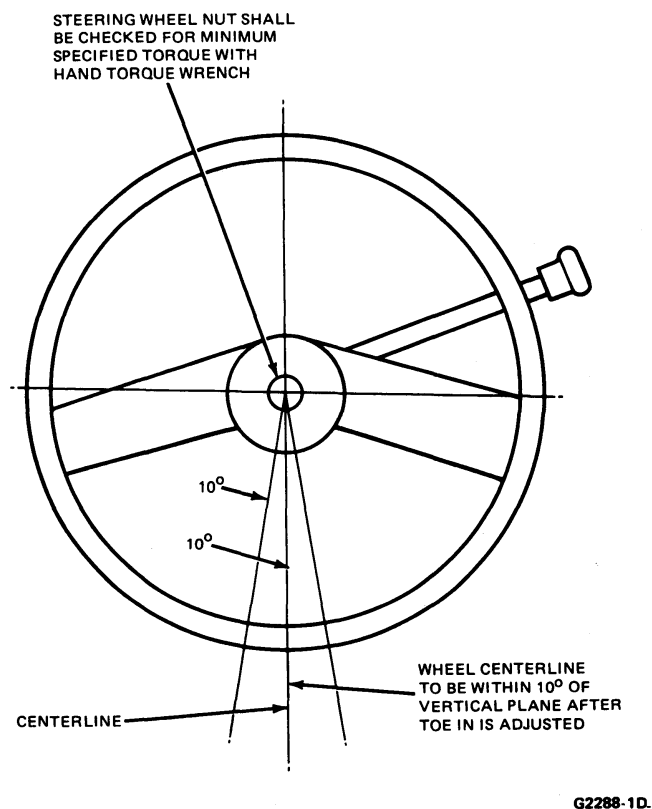

FIG. 2 Acceptable Steering Wheel Installation—Measured From Normal Spoke Angle
When the steering gear is on the high point, the front wheels should be in the straight-ahead position, and the steering wheel spokes in their normal position (Fig. 2). If the spokes are not in their normal position when the front wheels are straight ahead, adjust the steering wheel as outlined in this Part.
2. Note the steering wheel position with toe adjusted on E-Series, if off center (spokes in horizontal position) more than plus or minus 10 degrees in a vertical plane, remove the steering wheel (Fig. 2).